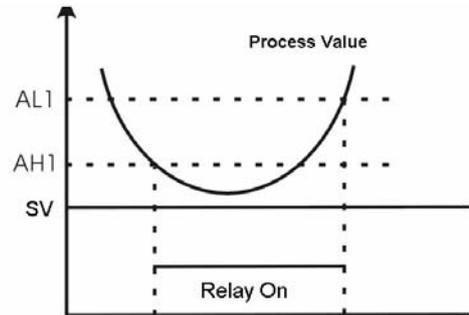

Figure 5
- ③ AH1 < AL1 (AH2 < AL2) is for absolute low alarm. See fig. 5.